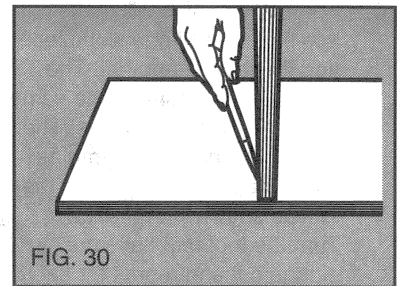

FIG. 30
- A. Place the workpieces on a work surface exactly as you will be assembling them in the form of an upside down "T." Mark lightly along the joint where the top of the shelf is to end up (See Figure 30). Mark biscuit locations at the joint interface on the shelf piece only.